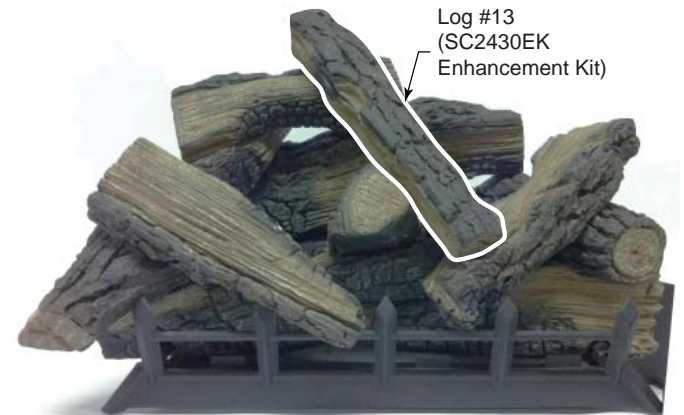

Figure 51
13. Place log #13 onto log #12 and top front right log (#10) by placing notch on bottom of log onto locating block on log #12. Rest bottom of log onto log #10 and center log (#9). *Figure 51*